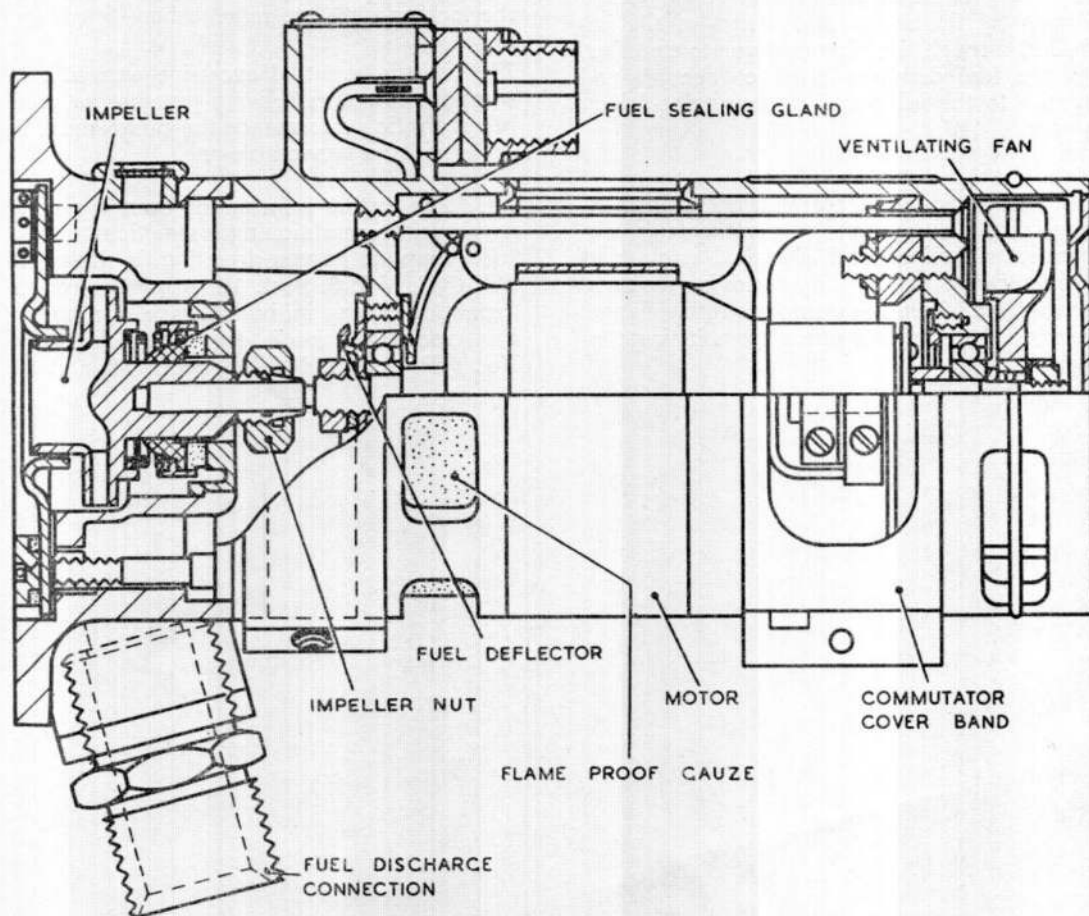

Fig. 2. Sectional view of external type pump
5. The external type of pump is designed to function when fitted to the outside of the fuel tank (fig. 2).